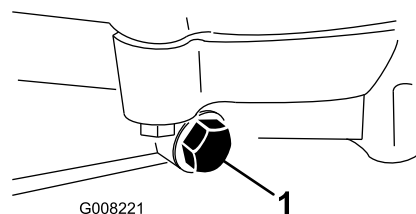

Figure 47
4. Place a pan below the drain plug (Figure 47).